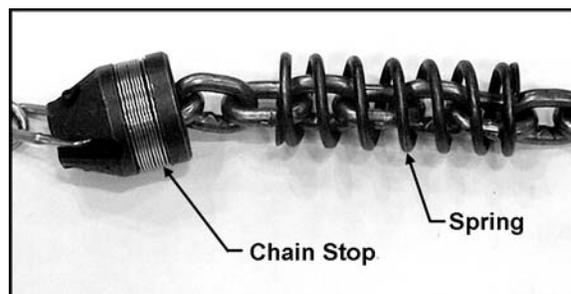

Figure 13
3. On the slack side of the old chain, remove the chain stop and the spring (Figure 13). Keep these handy for later re-installing.
3. On the slack side of the chain, remove chain stop, and remove the spring(s). (see Figure 13). Keep these handy for later re-installing.